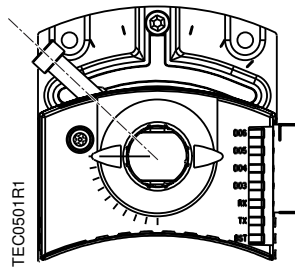

Figure 7. Setscrew in Shaft Hole.
5. Tighten the setscrew until the first thread can be seen in the shaft hole, Figure 7.